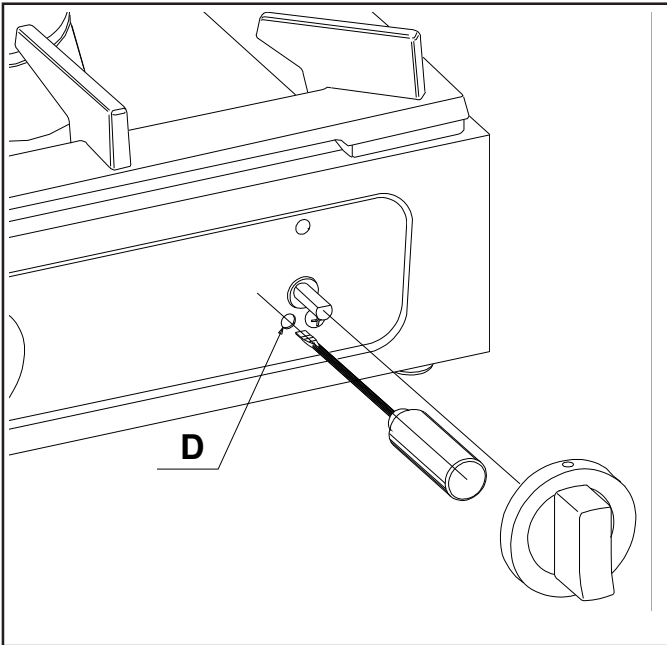

FIG. 3
4.1.2 ADJUSTMENT OF THE MINIMUM SETTINGS (Fig.3)